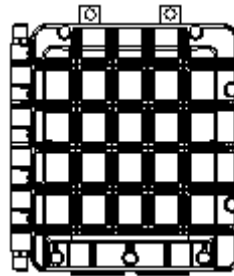

Figure 8
6.2 Wall mounting installation, use of hanging wall accessories. See Figure 8